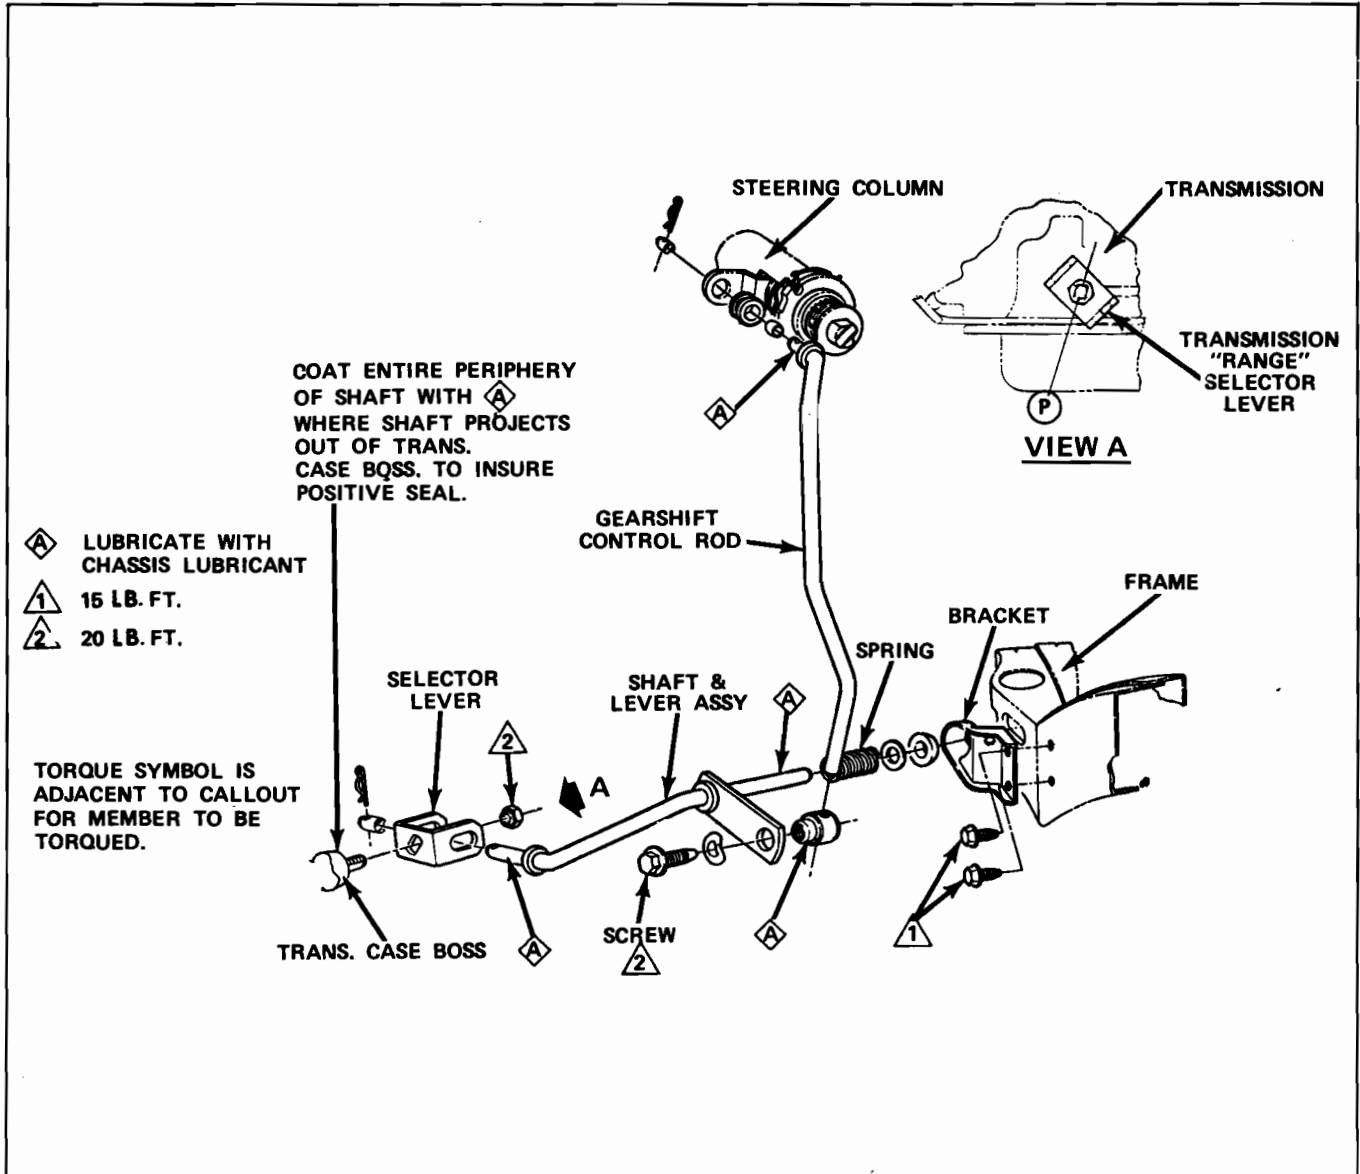

Fig. 7F-3 Tempest Column Shift Linkage
2. Pry out old seal (Fig. 7F-7).
3. Coat outer casing of new oil seal with gasket sealing compound and drive it into place with Installer J 5154 (Fig. 7F-8).